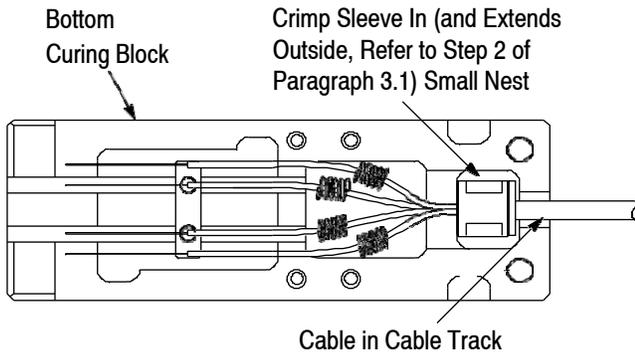

Figure 2
- Place the crimp sleeve in the small nest of the bottom curing block; and place the cable in the cable track. Make sure that the crimp sleeve sits securely in the small nest. For PRO BEAM EB Sr. cable plug connectors, the crimp sleeve will extend outside of the small nest. Refer to Figure 2.